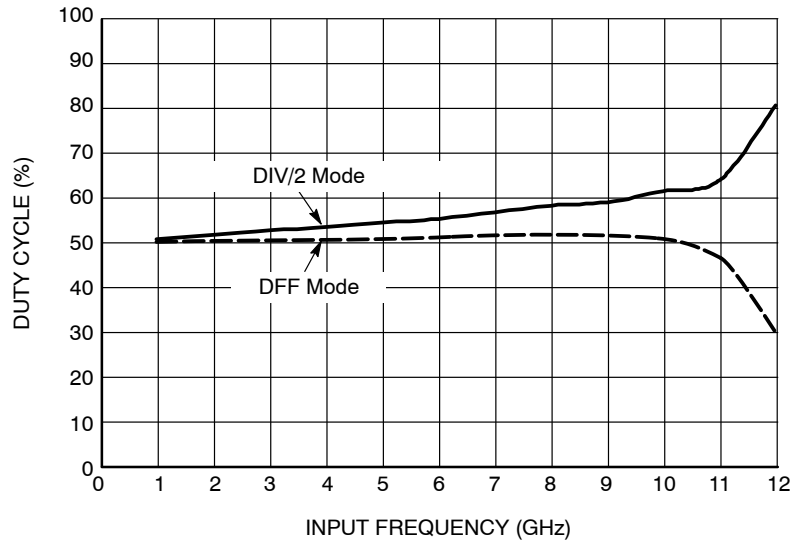

Figure 10. Duty Cycle % vs. Input Frequency (f_{in})
29. See Figure 10. Duty Cycle % vs. Frequency.
33. See Figure 10. Duty Cycle % vs. Frequency.